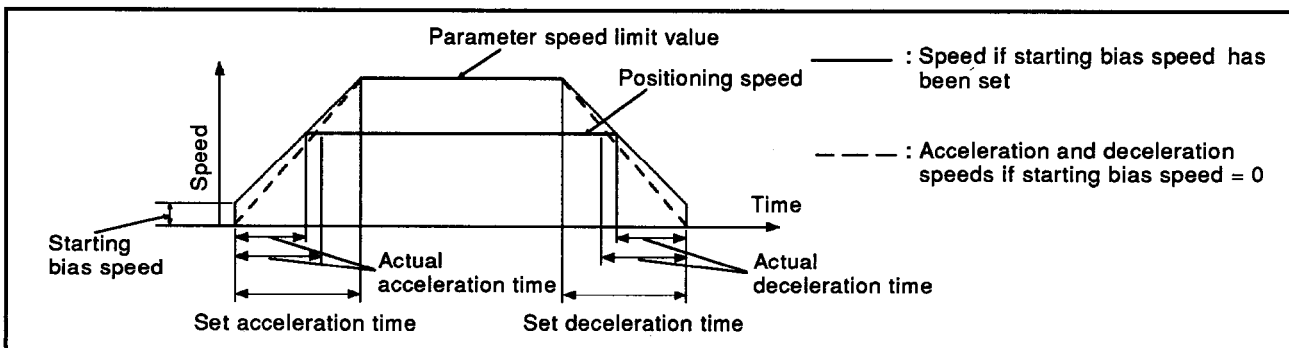

Fig. 3.5 Acceleration and Deceleration Times
(11) Acceleration and deceleration times
- Defines the period of time from the start of positioning to when the speed limit value specified in the parameter is reached. (Refer to Fig. 3.5.)